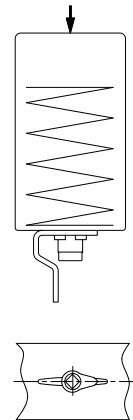

figure 2
2. NO air/spring (normally open). The disc (03) and the position indicator (58) should be in the open position (see figure 2).